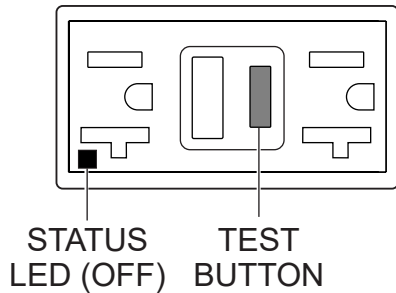

Figure 63. GFCI Receptacle (OFF)
4. Press the **TEST button** (Figure 63) on the GFCI receptacle and verify that the status LED turns **OFF**.